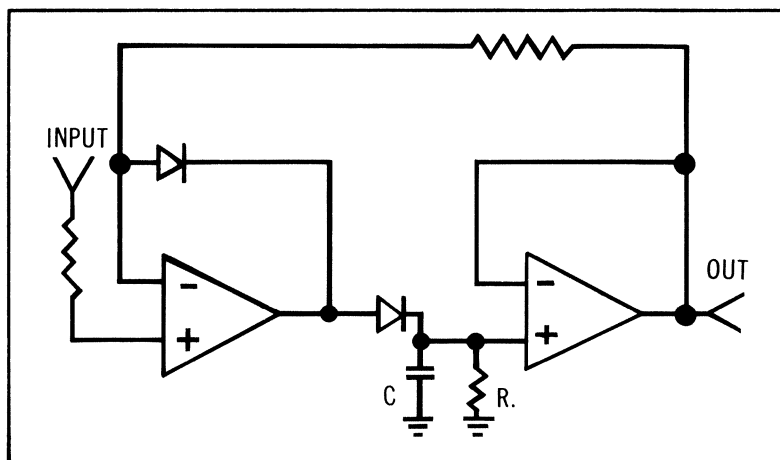
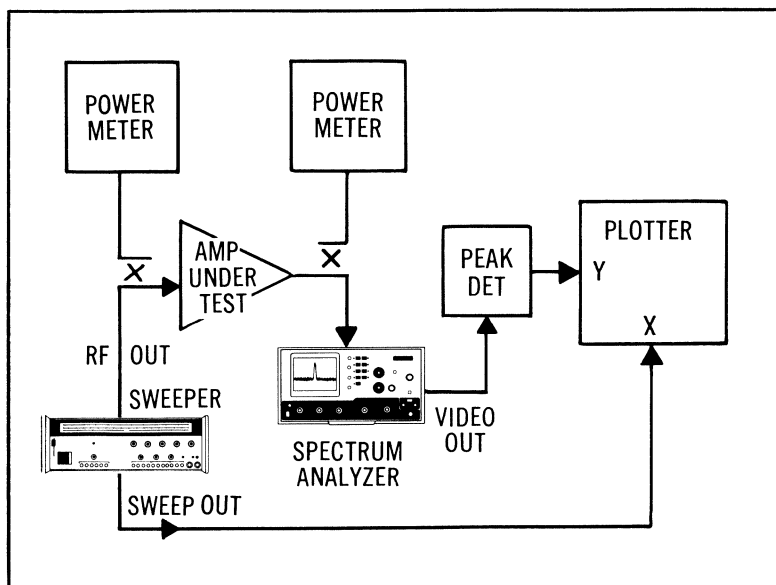

Figure 15
Figure 18 Wide Range Frequency Response Test
A simple detector, such as the one shown schematically in Figure 15, is sufficient to drive most X-Y plotters. The discharge time of capacitor C should be long with respect to the sweep time of the analyzer, but short relative to the change in the strength of the test signal.
C. A third approach utilizes the peak detector described in Figure 15 and generates the frequency response on an X-Y plotter. Figure 18 diagrams the configuration required for manual operation.